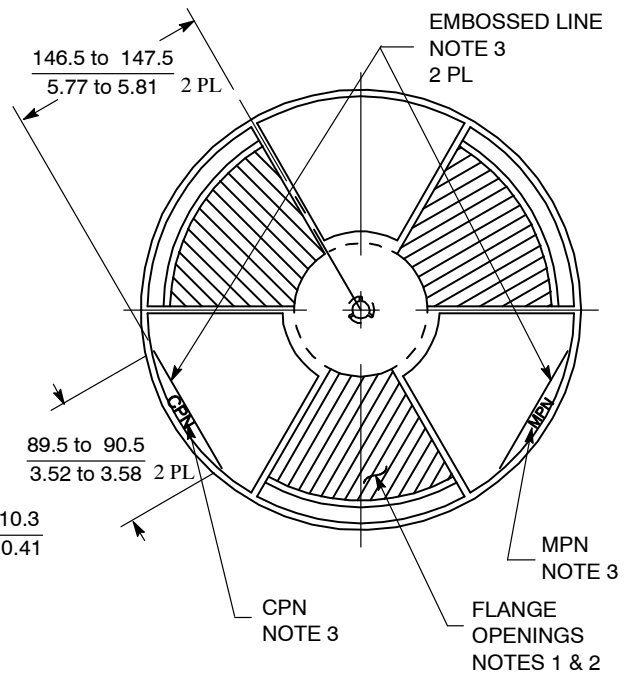

Figure 49. Front View of 330 mm (12.99 in) Reel
- If there are any flange opening on the front flange of the 330 mm (13.0 in) reel they must be designed in locations so that two of the 41.3 mm (1.65 in) by 125 mm (4.90 in) **onsemi** barcode labels can be applied parallel to each other as in Figure 49.